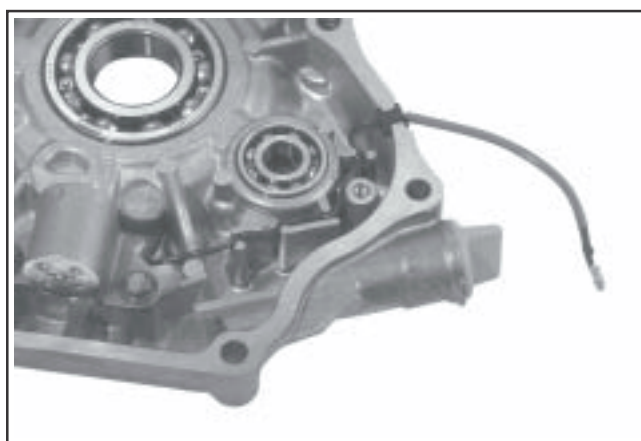

Figure 11-18. Oil Sentry™ Gauge Mounting and Lead Routing Details.
1. Mount the Oil Sentry™ gauge into the closure plate using two M6x1.0 hex flange screws. Route the wire lead and seat the grommet in the cutout as shown in Figure 11-18.